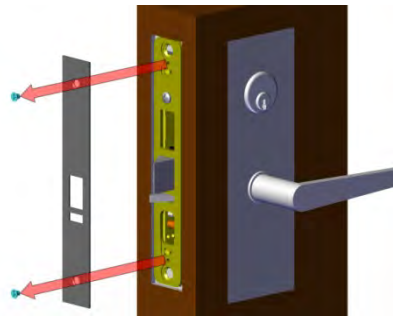

Fig. 1
- Remove the door-edge trim by removing the retaining screws and gently prying the trim plate loose (Fig. 1).